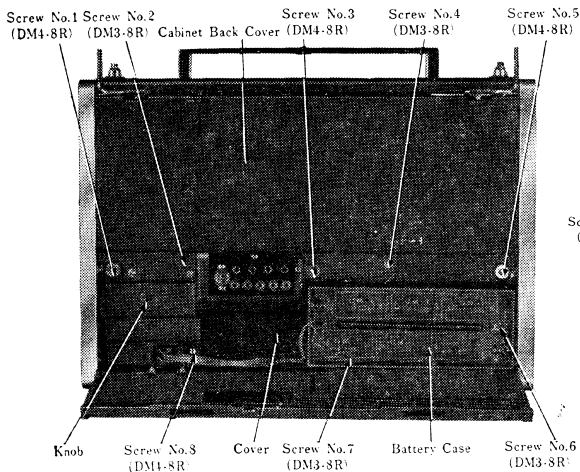

Fig. 1
**To Remove Chassis (Refer to Figs. 1 & 2)**
2. Remove five (5) control knobs from cabinet.
5. Remove two (2) red cabinet back cover mounting screws (Nos. 2 & 4) as illustrated in Fig. 1.
7. Remove two (2) red battery case mounting screws (Nos. 6 & 7) as illustrated in Fig. 1.
8. Remove four (4) chassis & chassis cover mounting screws (Nos. 1, 3, 5 & 8) as illustrated in Fig. 1.